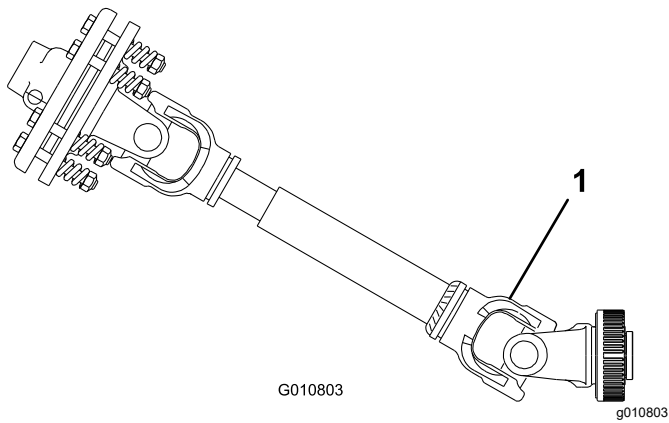

Figure 10
**Important:** When connecting the PTO, do not lift the aerator higher than is necessary. Lifting the machine too high will cause the PTO shaft knuckles to break (Figure 10). Shut off the PTO when you raise the aerator. You can operate the PTO up to an angle of 25°, but do not exceed a 35° angle when the aerator is at its highest position; otherwise, severe shaft damage may occur.